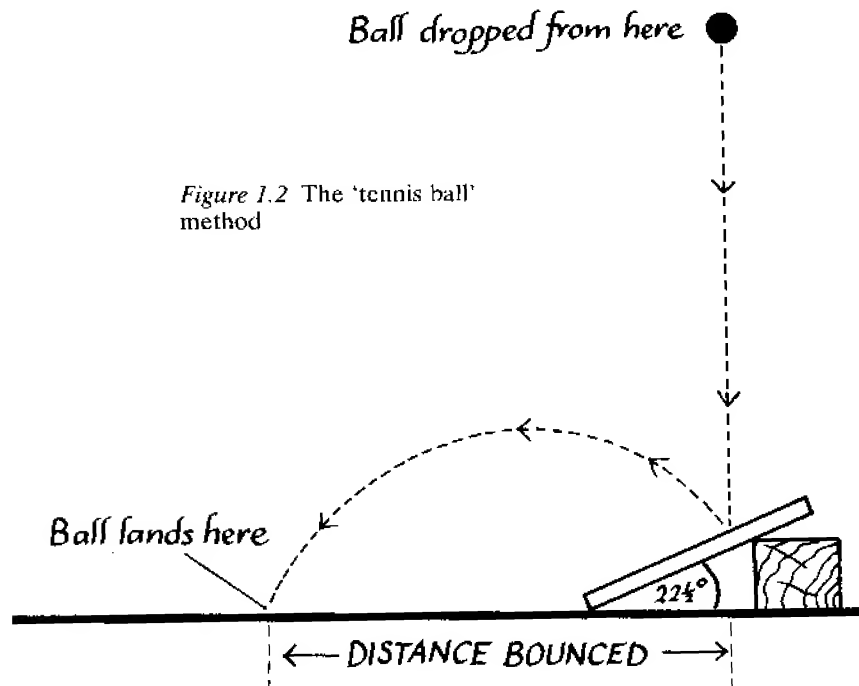

Figure 1.2 The 'tennis ball' method
4. The chalked ball will leave two marks; one on the tilted surface and one on the floor. Measure the distance between the two marks (see Figure 1.2).